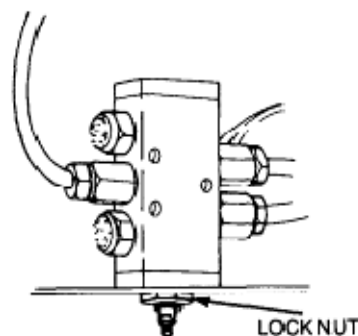

Figure 168 Differential Lock Control Switch Removal
- g. Tag and disconnect the three vacuum pipes connected to the differential lock control switch (Figure 168).